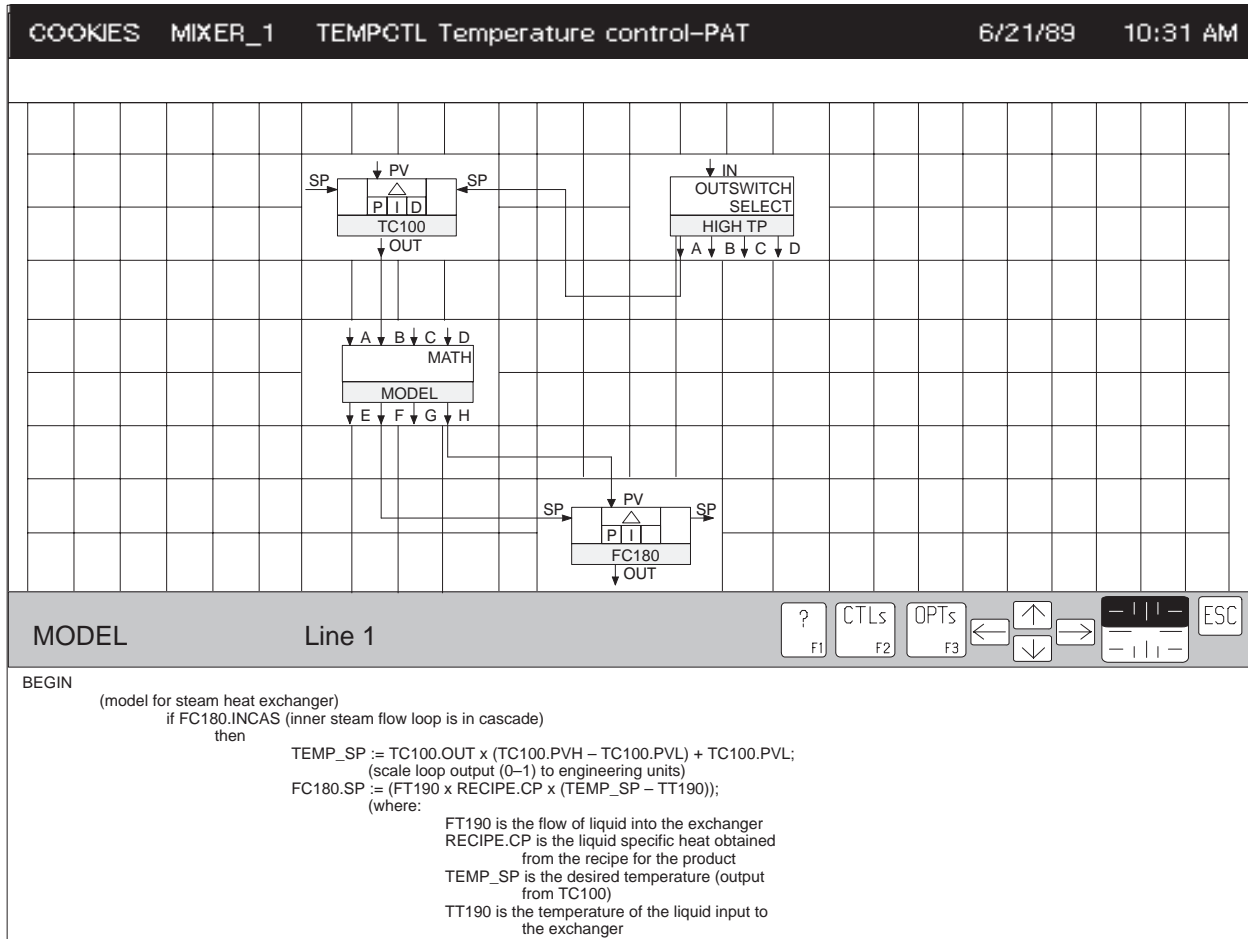

Figure 1-3 Continuous Function Chart
- Continuous function charts (Figure 1-3) define the regulatory control strategies which are to be enabled in each of the various states.